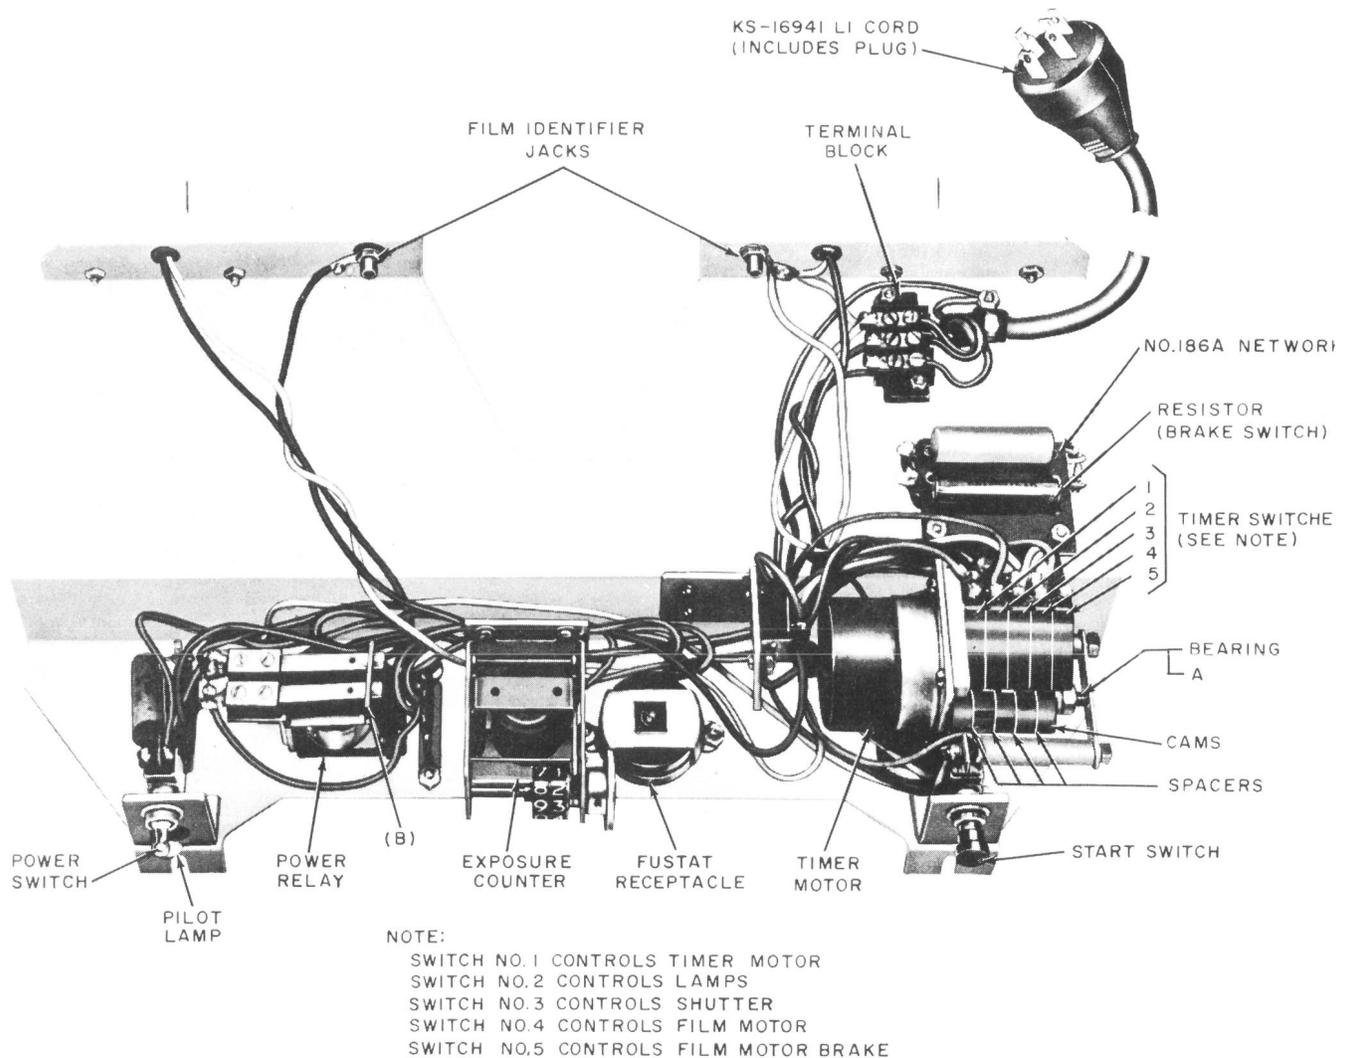

Fig. 9—KS-14776 Camera Chassis Removed From Hood
**\*2.11 Power Relay Requirements:** Fig. 9, (A)
**\*2.12 Operation of Timer Switches:** Fig. 9—The contacts of each switch shall operate when the switch actuator is